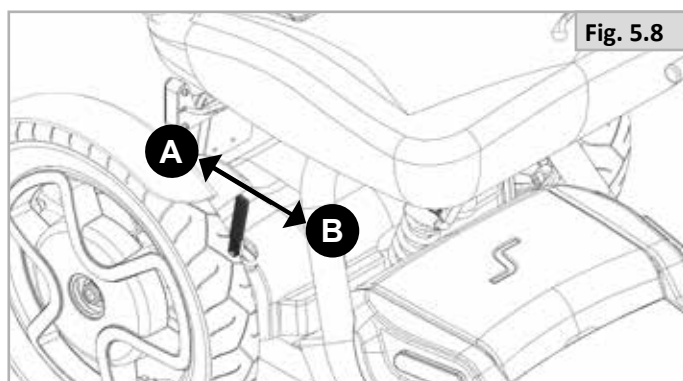

Fig. 5.8
### DISABLE (Fig. 5.8, A)
### ENABLE (Fig. 5.8, B)
- A user may never be left unattended while the scooter is in 'push' (B - Fig. 5.8).